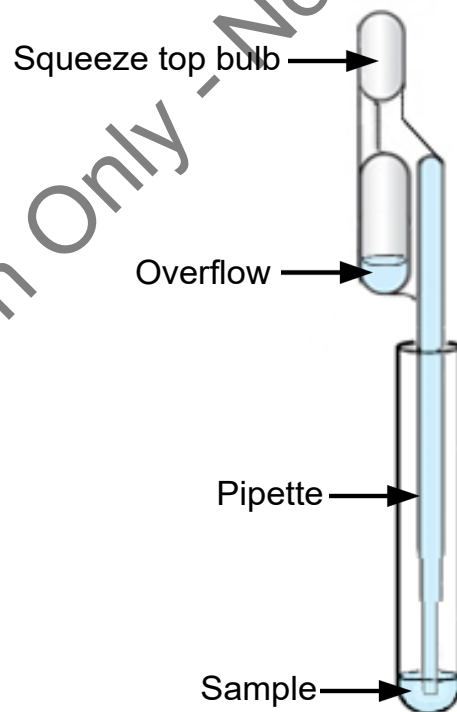
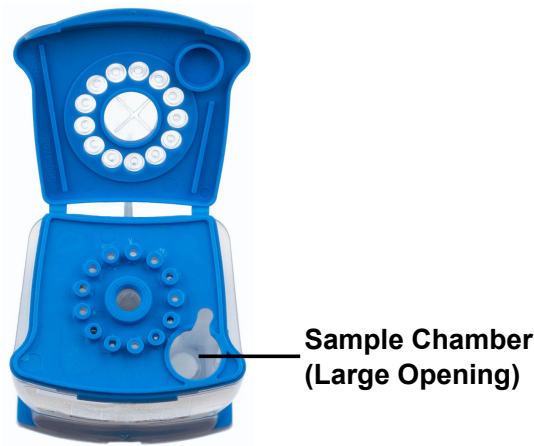

Figure 8. Transfer Pipette
Figure 9. Cartridge (Top View)
1. Squeeze the top bulb of the transfer pipette **completely** and place the pipette tip in the specimen transport tube containing the patient specimen (see Figure 8).
3. To transfer the patient specimen to the cartridge, squeeze the top bulb of the transfer pipette completely again to empty the contents of the pipette into the large opening (Sample Chamber) in the cartridge shown in Figure 9. It is okay to have excess specimen left in the overflow reservoir of the pipette (Figure 8).